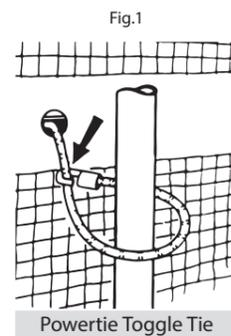

Fig.1
3. Elasticated Toggle Ties (Powerties) manufactured by ITP are recommended for fixing Powerclad Scaffold Sheeting to scaffolds. See Fig. 1.